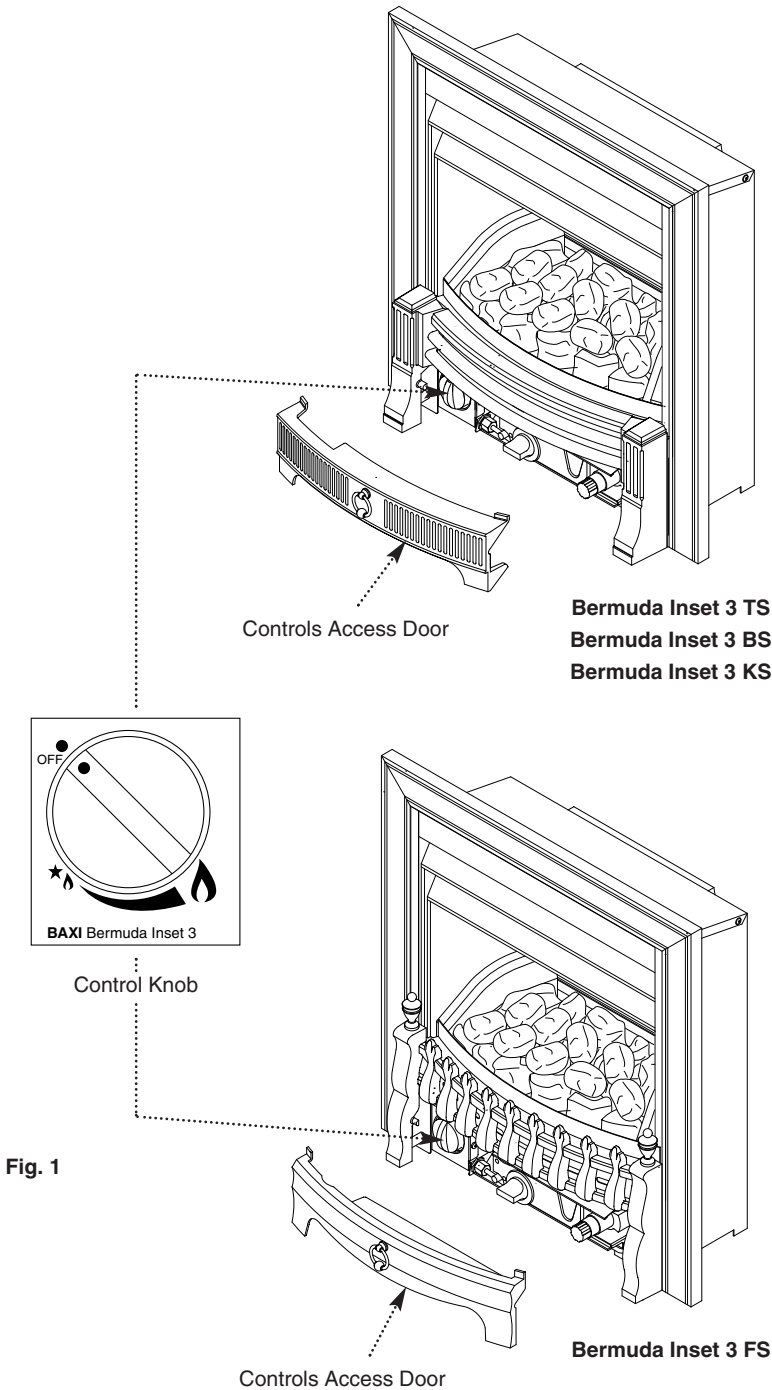

Fig. 1
3. The fire is controlled by a knob which is positioned behind the controls access door on the fender assembly (Fig. 1). The knob has three positions: